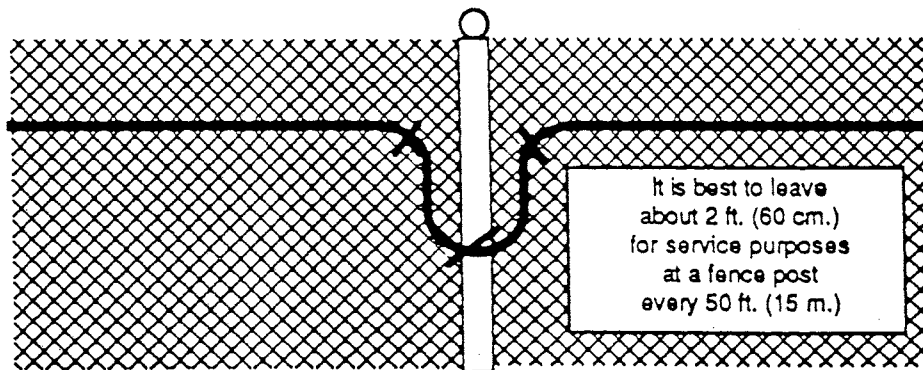

Figure 4-6. Cable Service Loop
2. Unreel sensor cable along the fence, making temporary ties near each fence post (keeping cable off the ground to prevent cable damage). Leave enough slack so the cable droops ± 2 inches between posts. To facilitate later cable repair, leave a 2 foot (60 cm) service loop at a post (see Figure 4-6) approximately every 50 feet (15 m) along the fence.